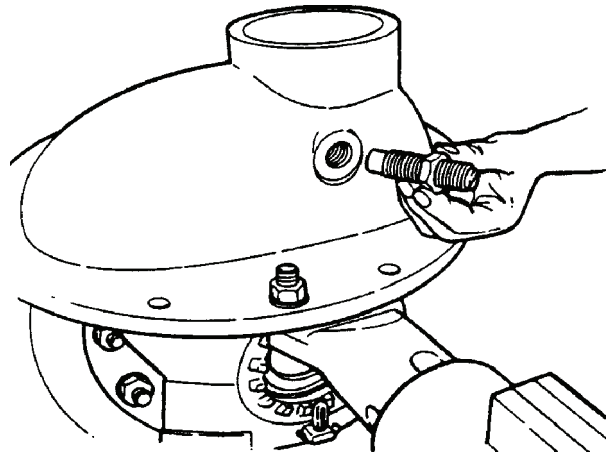

Figure 80.
- (1) After correct gear tooth contact patterns have been established, install the thrust screw into the carrier and tighten directly against the ring gear. Figure 80.